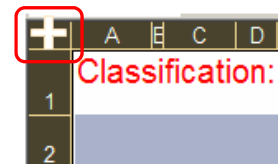

Figure 7-69. “Select All” Box
- When the exported spreadsheet opens, place the cursor in the box in the upper left corner of the worksheet, and right-click. (See the cell where the cross shows in Figure 7-69.)